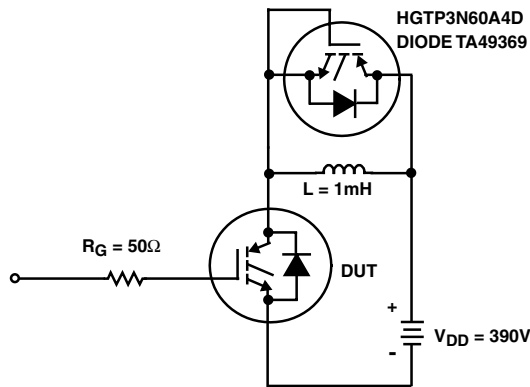

FIGURE 24. INDUCTIVE SWITCHING TEST CIRCUIT
| Current Turn-On Delay Time | $t_{d(ON)I}$ | IGBT and Diode at $T_J = 25^{\circ}\text{C}$, $I_{CE} = 3\text{A}$, $V_{CE} = 390\text{V}$, $V_{GE} = 15\text{V}$, $R_G = 50\Omega$, $L = 1\text{mH}$, Test Circuit (Figure 24) | - | 6 | - | ns |
| Current Turn-On Delay Time | $t_{d(ON)}$ | IGBT and Diode at $T_J = 125^{\circ}\text{C}$, $I_{CE} = 3\text{A}$, $V_{CE} = 390\text{V}$, $V_{GE} = 15\text{V}$, $R_G = 50\Omega$, $L = 1\text{mH}$, Test Circuit (Figure 24) | - | 5.5 | 8 | ns |
- Values for two Turn-On loss conditions are shown for the convenience of the circuit designer. E_{ON1} is the turn-on loss of the IGBT only. E_{ON2} is the turn-on loss when a typical diode is used in the test circuit and the diode is at the same T_J as the IGBT. The diode type is specified in Figure 24.